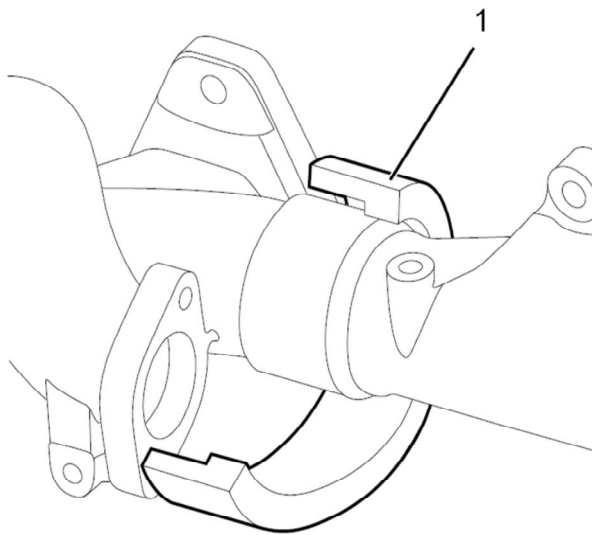

Figure 27: Front Exhaust Manifold Ring Seal Ceramic Mat Wrap
29. Wrap manifolds and seal packing with ceramic mat wrap (**Figure 27**, Item 1) covering seal packing with thick end of ceramic mat wrap.